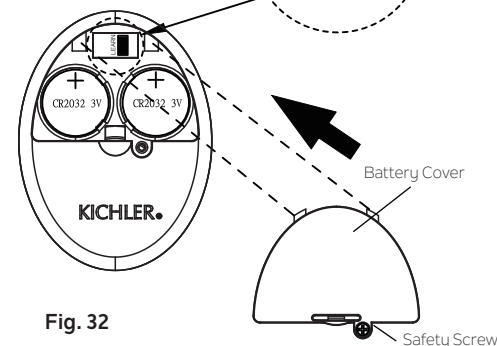

Fig. 32
- Step 2.** Restore power to the ceiling fan branch circuit at the circuit breaker or fuse box. Within 30 seconds of restoring power, press and hold the LEARN button on the back of the transmitter (Fig. 32) for 3 seconds. The light on the fan (if installed) will flash twice and the fan will turn on at a low speed. This confirms that the pairing process is complete. The transmitter will now be paired to your fan and ready for use.